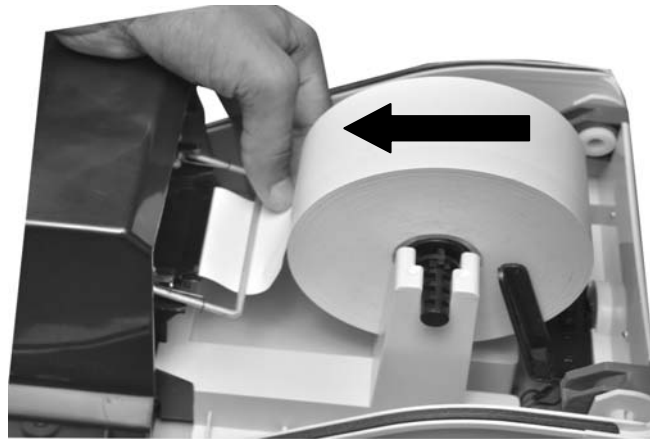

Figure 3.15 - Paper Feed - Auto Mode
- (c) Insert the free end / starting of the paper roll edge into the paper insertion guide below paper deflector mechanical assembly provided on the thermal printer on the rear side of the printer as shown in Figure 3.15.